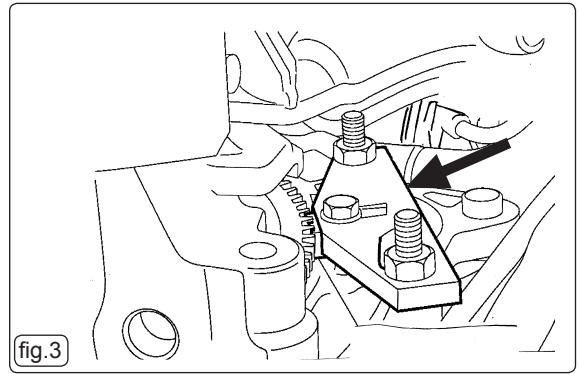

fig.3
- 3.4.1 Ensure the Flywheel Locking Tool Assembly is firmly bolted in position where the starter motor is normally fitted (fig.3) and locates on to the flywheel through the starter motor aperture. Adjust the sliding adaptor part to 'lock' in to the teeth of the flywheel before firmly bolting the Tool in place, to retain the crankshaft in a fixed position.